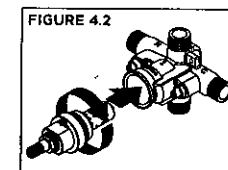

FIGURE 4.2
- 4) Thread flow control spindle and cap assembly into valve body. Turn clockwise to secure to valve (FIGURE 4.2).